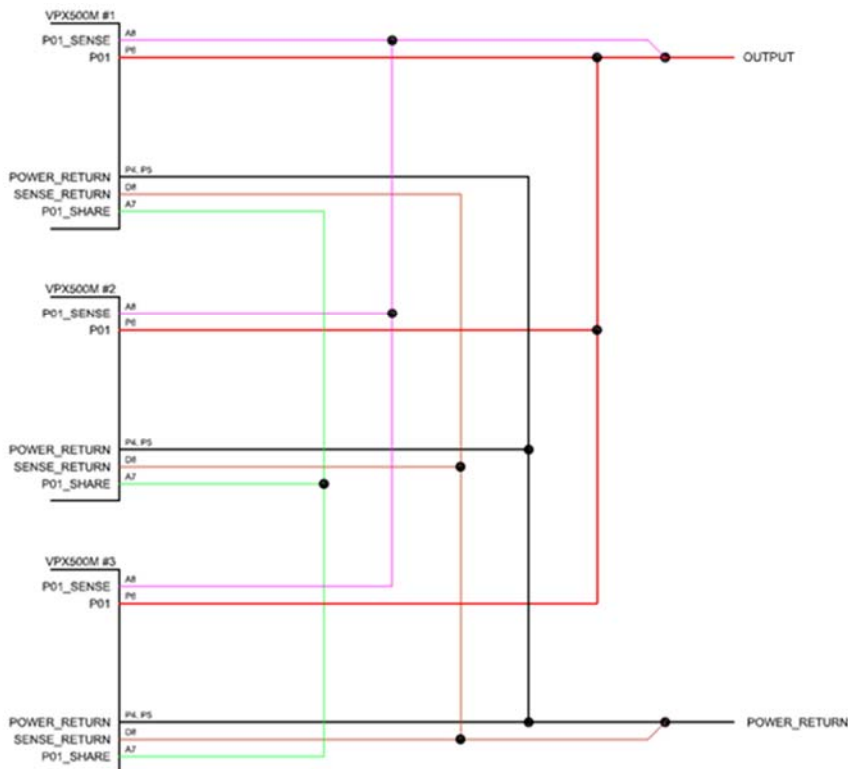

Figure 1: Connection Diagram for Parallel Operation of +5 V Output
Both main outputs (+5V/80A and +3.3V/15A) of Behlman's VPXtra™500M1 series power supplies can be paralleled for higher output power and redundancy with one or more VPXtra™500M series power supplies. See Figure 1 below for connections required.
- Figure 1 Shows typical connection diagram for parallel operation of +5V output similar connections shall be made to parallel the +3.3V output